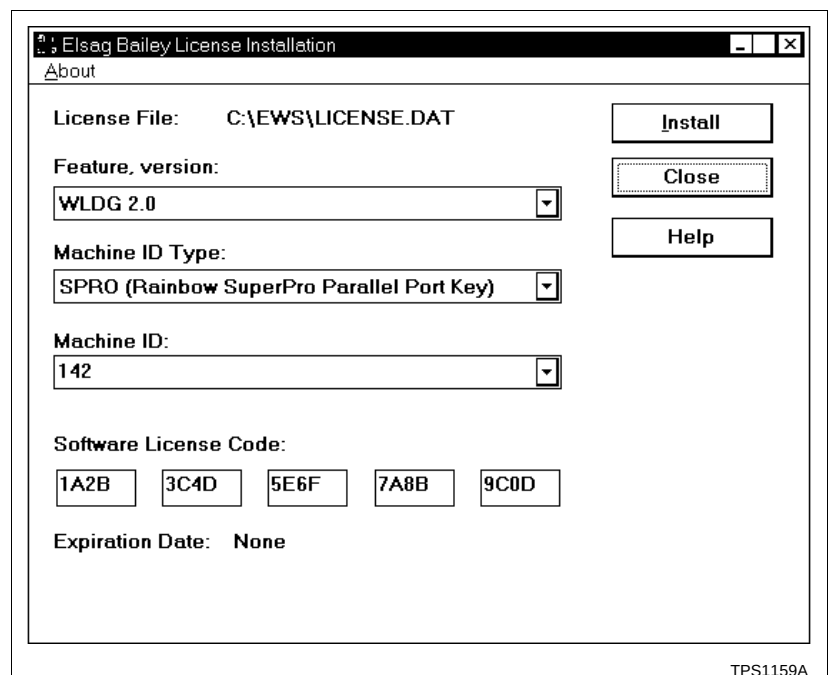

Figure 2-1. Example License Installation Screen
2. The *Bailey Controls License Installation* dialog box appears as shown in Figure 2-1.